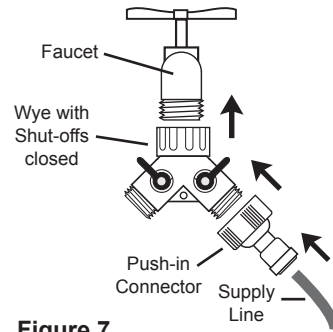

Figure 7
7) Attach the Wye to the outdoor faucet and screw the Push-in Connector to one side of the Wye (refer to Figure 7). Close the Wye Shut-offs.
8) Cut the Supply Line to length and insert the end of the Supply Line into the Push-in Connector (refer to Figure 7). Make sure it is pushed in all the way.